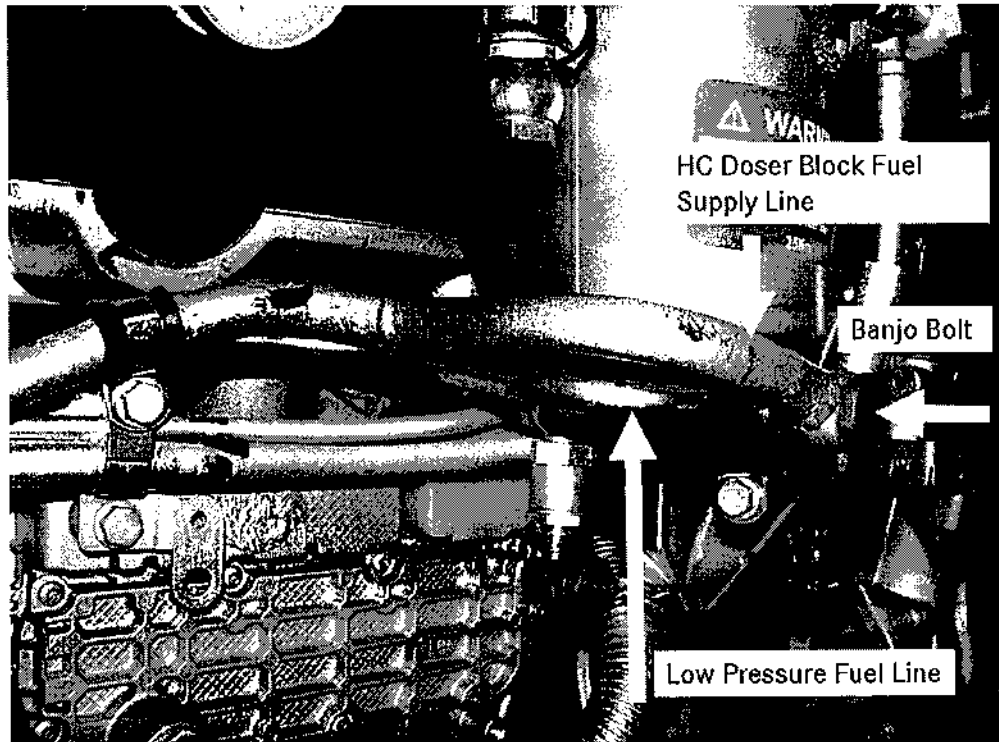

Figure 1 – Steel Low Pressure Fuel Line
2. On the left side of the engine, **INSPECT** the low pressure fuel line that runs from fuel filter housing to the left front of the cylinder block. Reference Figure 1 for the location and appearance of the unpainted **NEW** steel fuel line.